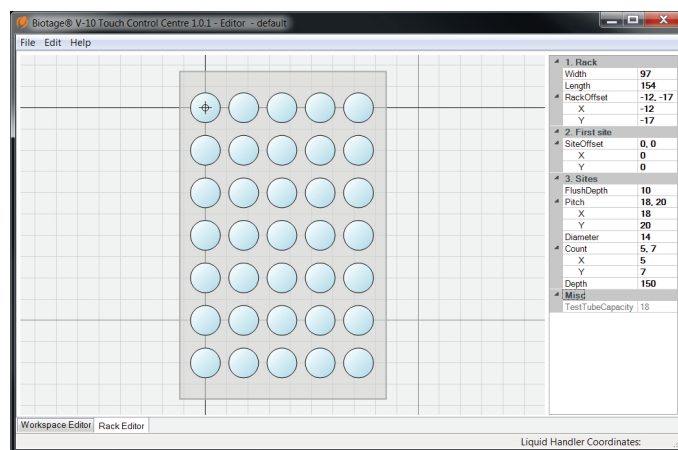

Figure 27. The rack editor with the default rack.
1. Start the Editor application and select the **Rack Editor** tab. The default rack is displayed; see Figure 27.